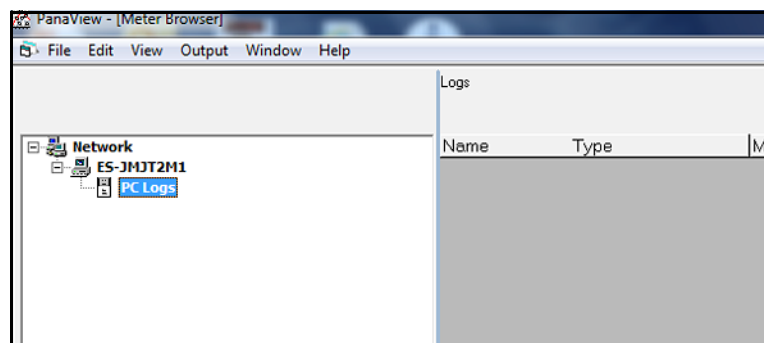

Figure 29: PC Logs Branch
2. Fully expand the network tree by clicking on the “+” sign next to the *My Computer (Name)* branch (see Figure 29 below).